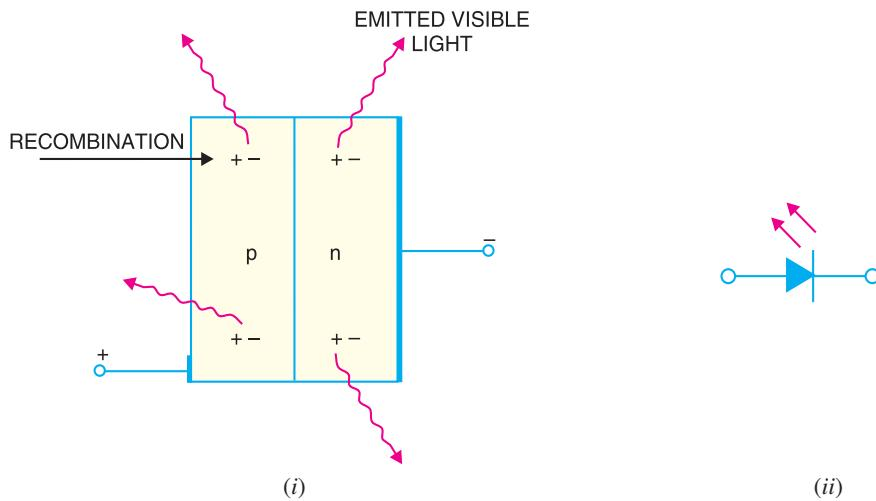
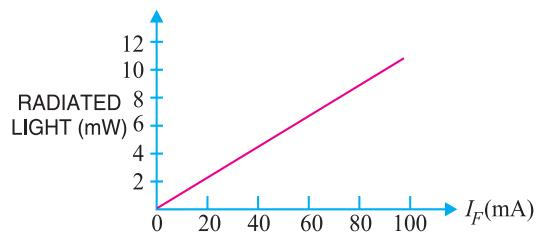

Fig. 7.2
Fig. 7.3
**Theory.** When light-emitting diode (LED) is forward biased as shown in Fig. 7.2 (i), the electrons from the *n*-type material cross the *pn* junction and recombine with holes in the *p*-type material. Recall that these free electrons are in the conduction band and at a higher energy level than the holes in the valence band. When recombination takes place, the recombining electrons release energy in the form of heat and light. In germanium and silicon diodes,
Fig. 7.2 (ii) shows the schematic symbol for a LED. The arrows are shown as pointing away from the diode, indicating that light is being emitted by the device when forward biased. Although LEDs are available in several colours (red, green, yellow and orange are the most common), the schematic symbol is the same for all LEDs. There is nothing in the symbol to indicate the colour of a particular LED. Fig. 7.3 shows the graph between radiated light and the forward current of the LED. It is clear from the graph that the intensity of radiated light is directly proportional to the forward current of LED.